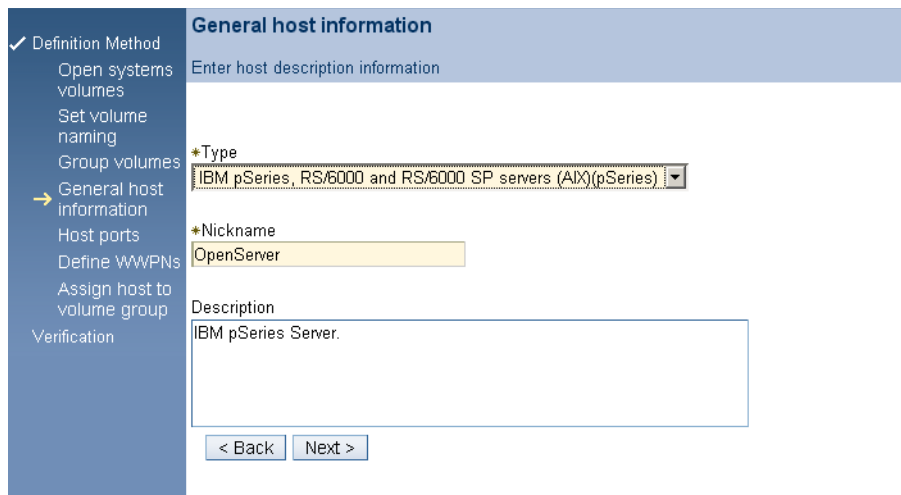

Figure 11-6 Express configuration: Selecting the open systems host type
7. Selecting **Next** opens the host type configuration window, Figure 11-6, where you have to specify the host type for your attached host system.